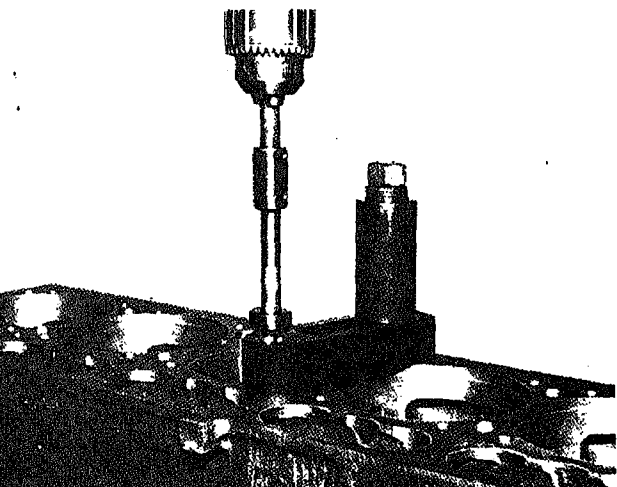

Fig. 1-1-16. Reaming eroded water hole
6. Use Hand Driver to turn the reamer, Fig. 1-1-16. This driver is loosely pinned to prevent up and down side thrust of reamer while it is being turned.
1. Insert hold-down adapter of into cylinder block and tighten cap screw hole, Fig. 1-1-16.